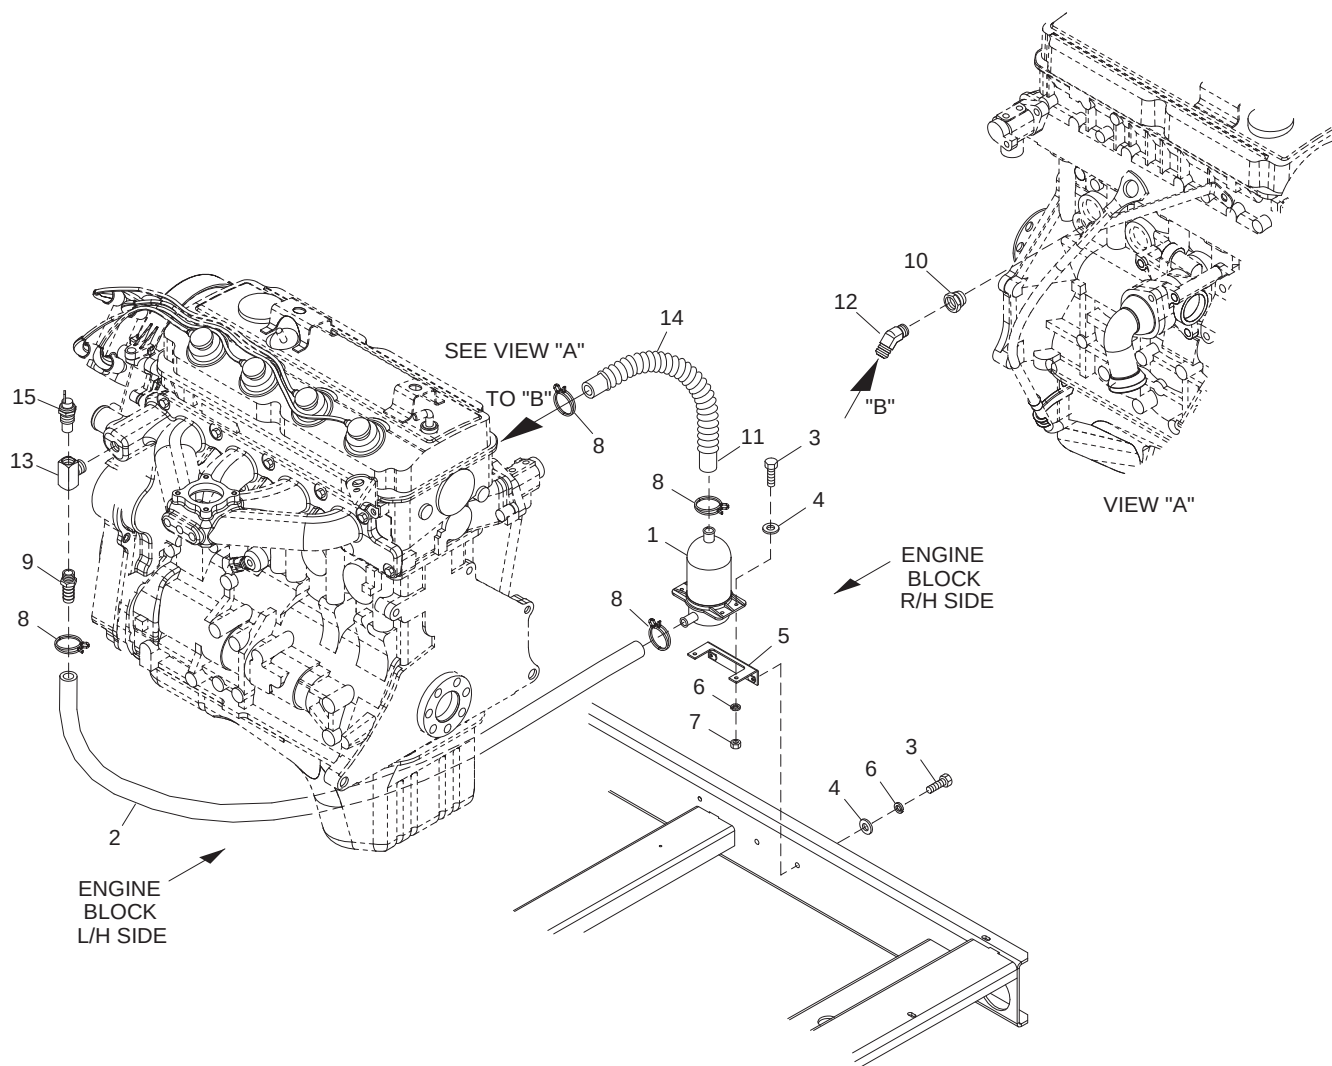

Figure 2. Block Heater Installation
3. See Figure 2, next page. Assemble block heater (Item 1) and bracket (Item 5) as shown, and attach it to the frame using specified screws (Item 3), lock washers (Item 6), flat washers (Item 4), and nuts (Item 7).